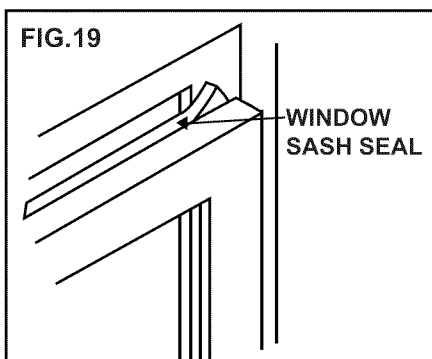

FIG.19
1. Trim window sash seal to fit window width. Insert it into space between upper and lower sashes as shown (FIG. 19).